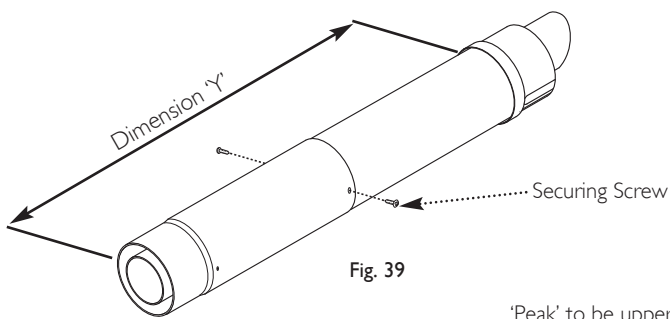
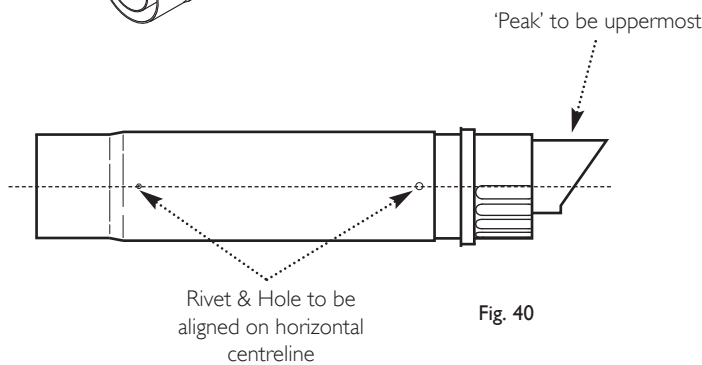
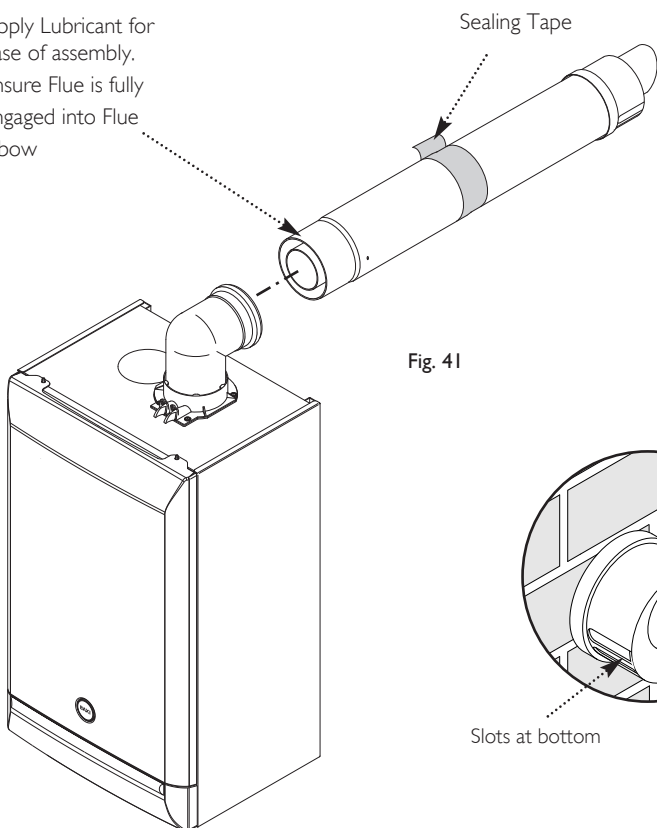

Fig. 39
Fig. 40
Fig. 41
8. Adjust the two telescopic sections to dimension 'Y' (Fig. 39). Ensure that the rivets and holes in the Connection Assembly are aligned horizontally (Fig. 40).
9. Using a 2mm bit, drill through the holes at the end of the Connection Assembly into the Terminal Assembly and secure them together using the screws supplied (Fig. 39). Seal the joint with the tape provided (Fig. 41).
11. Draw the flue back through the wall and engage it in the elbow. It may be necessary to use soap solution or similar to ease assembly of the elbow adaptor and flue (Fig. 41).